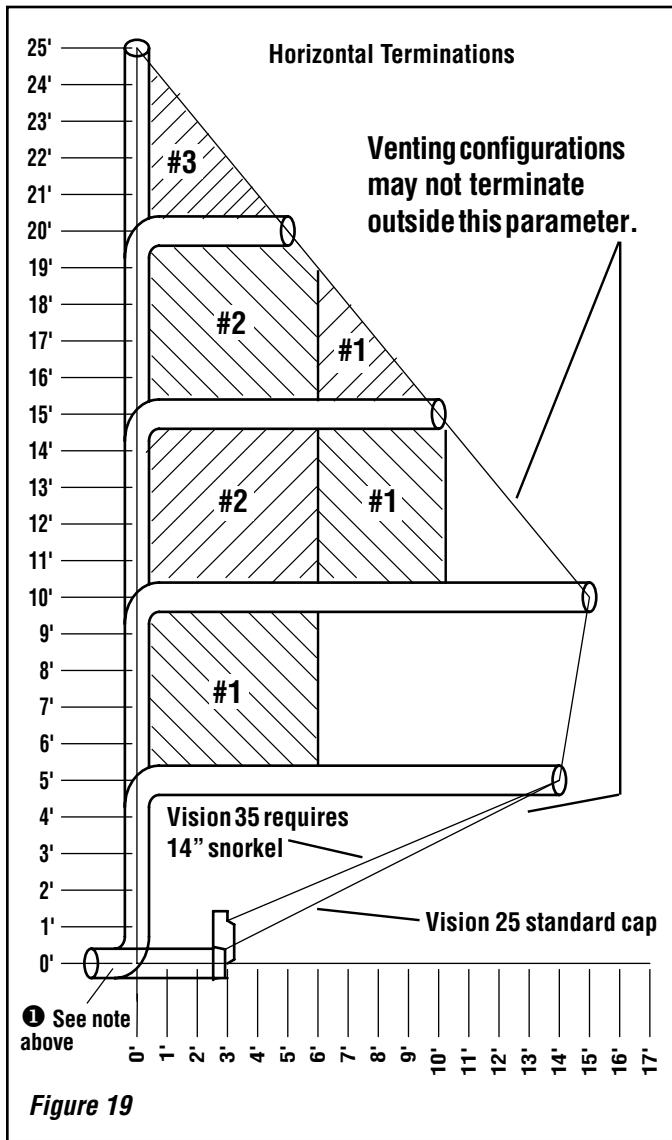

Figure 19
① One 45° elbow is allowed when venting horizontal, straight off the back of the unit. See *Figure 19*.